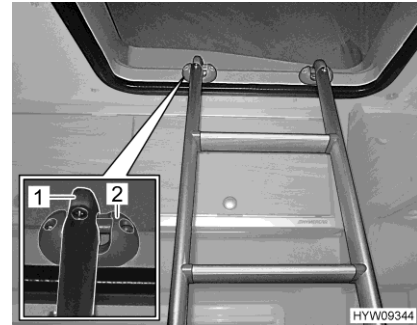

Fig. 51 Access ladder (attached)
- Hook the access ladder with the two brackets (Fig. 51,1) into the U-bolts (Fig. 51,2) on the frame of the elevating roof.